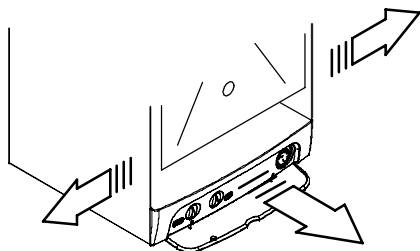

Fig. 6.10
- 4 Remove the side panels or move the lower part of the side panels as indicated in Fig. 6.10 and pull the control panel. When completely pulled out, the panel can rotate 45° downwards to facilitate the operations on the internal parts.